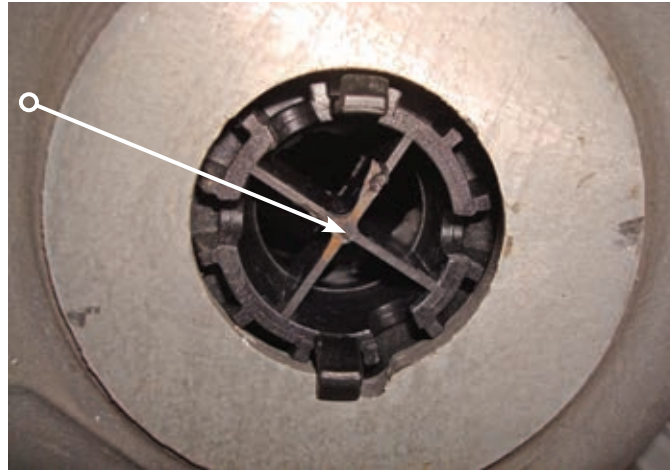

fig. 3
4. Once the hole is created; in order to make access to the barb on the cylinder it will be necessary to remove the cross ribs from the lower spring retainer (fig. 3).